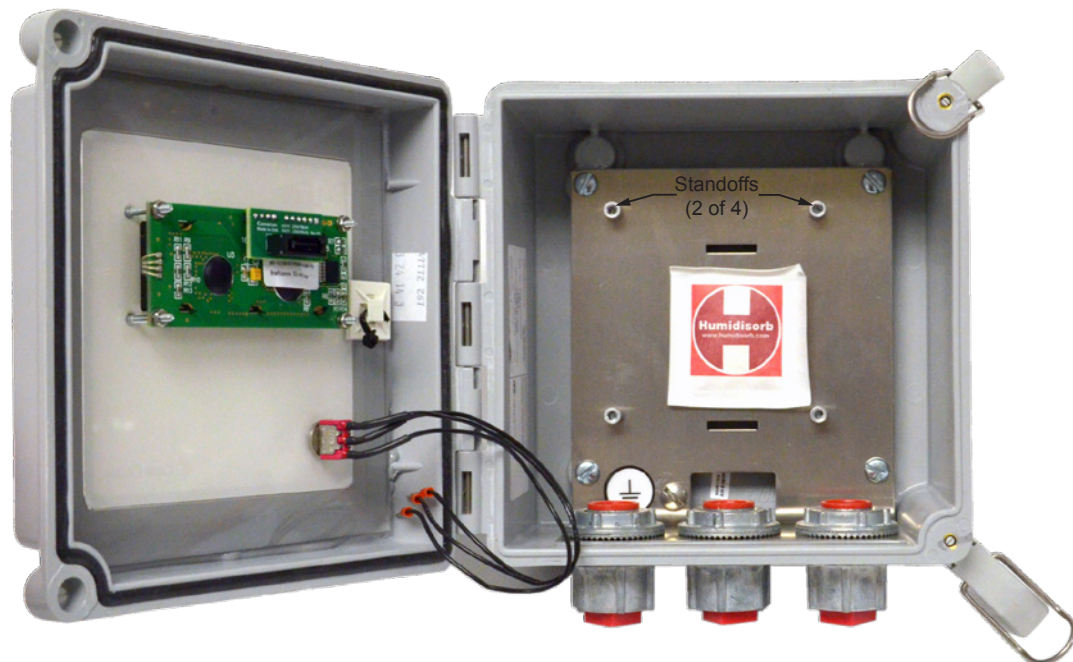

Figure 5.5—Weatherproof board removed
7. Tighten standoffs attached to the mounting plate (Figure 5.5, Page 47).